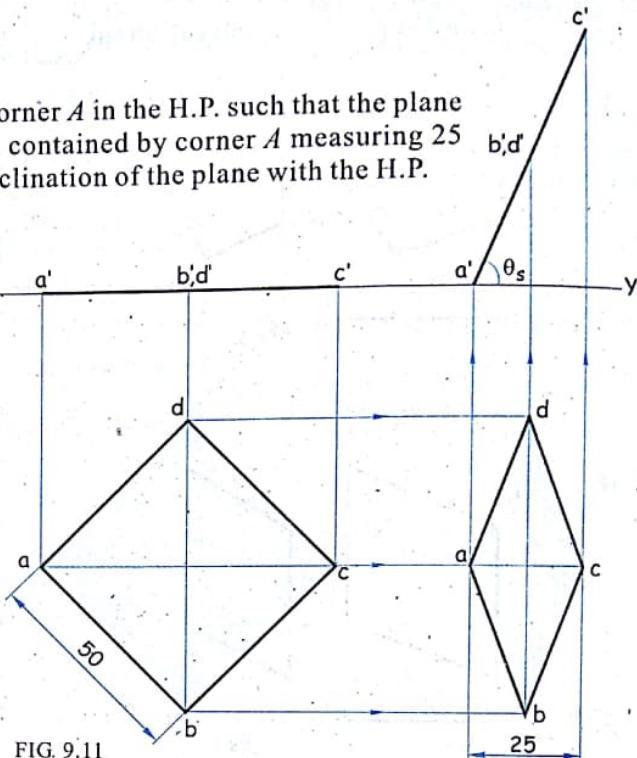

FIG. 9.11
**Solution :** Refer figure 9.11.